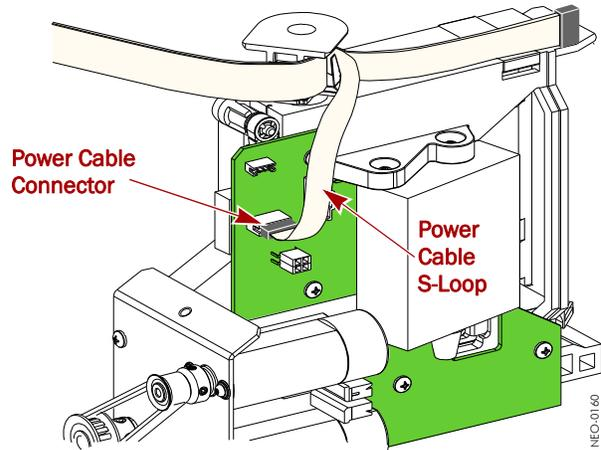

Figure 10. Connect the Shuttle Power Cable
1. Loop (do NOT bend) and connect the **Power cable** to the Power cable connector (Figure 10).